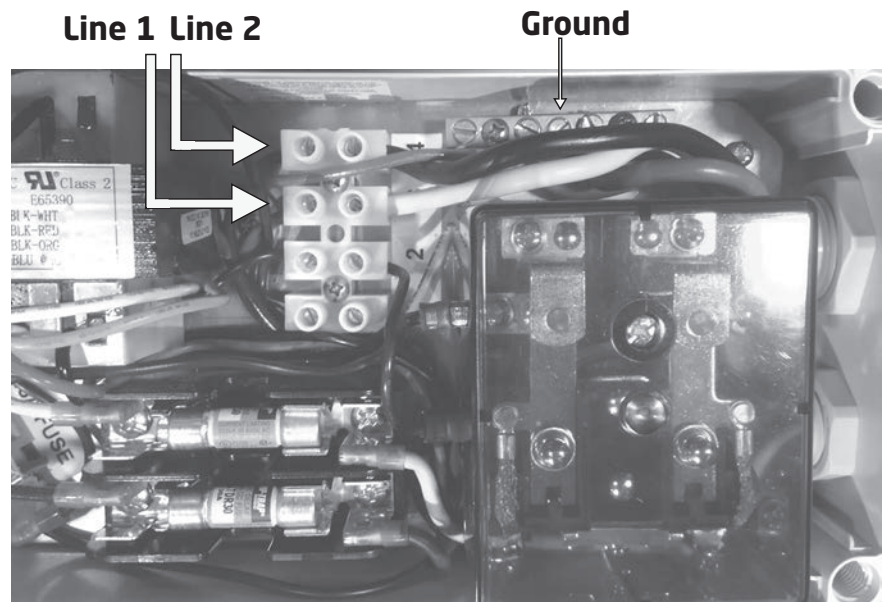

Figure 6 - Control Box Wiring - Image
4. Cut excess cord at the control box. Strip back wire insulation and install Line 1, Line 2, and Ground using Figure 6 Replace the control box cover.